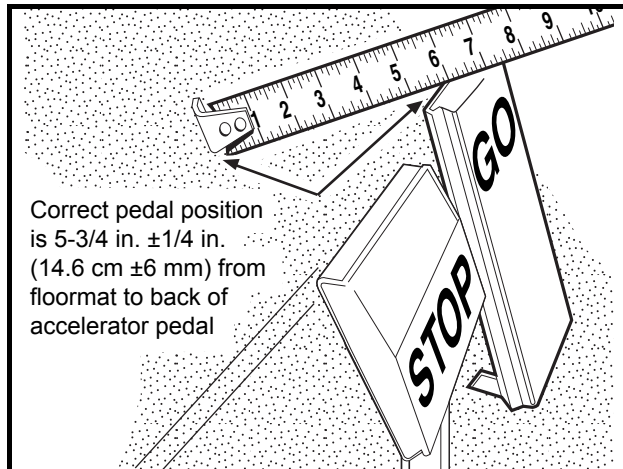
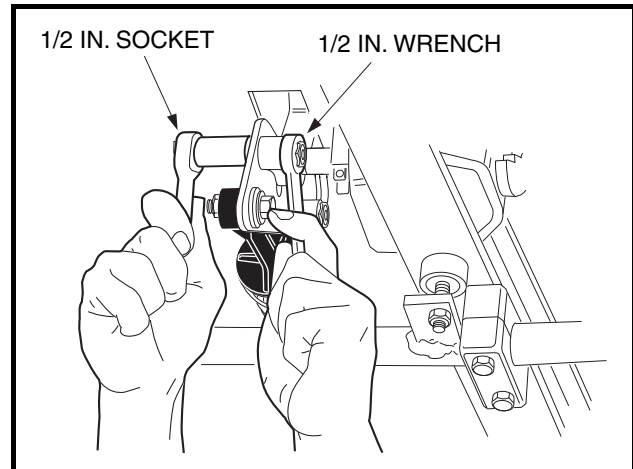

Figure 5-7 Accelerator Pedal Height
Figure 5-8 Accelerator Pedal Adjustment
1. Measure the distance from the top of the accelerator pedal to the floorboard. If it is within the range of 5-3/4 inches  $\pm 1/4$  inch (14.6 cm  $\pm 6$  mm) (**Figure 5-7, Page 5-7**), adjusting the accelerator pedal is not necessary. Tighten the nylon locknut (23) to 26 ft-lb (35.3 N·m) (**Figure 5-11, Page 5-9**) and proceed to step 8. If adjustment is necessary, proceed to step 2.
4. Loosen the nut and bolt securing the accelerator pedal to the pivot plate (**Figure 5-8, Page 5-7**).
- 6.1. Adjust the distance from the floormat to the back of the accelerator pedal to be 5-3/4 inches  $\pm 1/4$ -inch (14.6 cm  $\pm 6$  mm) (**Figure 5-7, Page 5-7**). Tighten nut to 26 ft-lb (35.3 N·m) (**Figure 5-8, Page 5-7**).